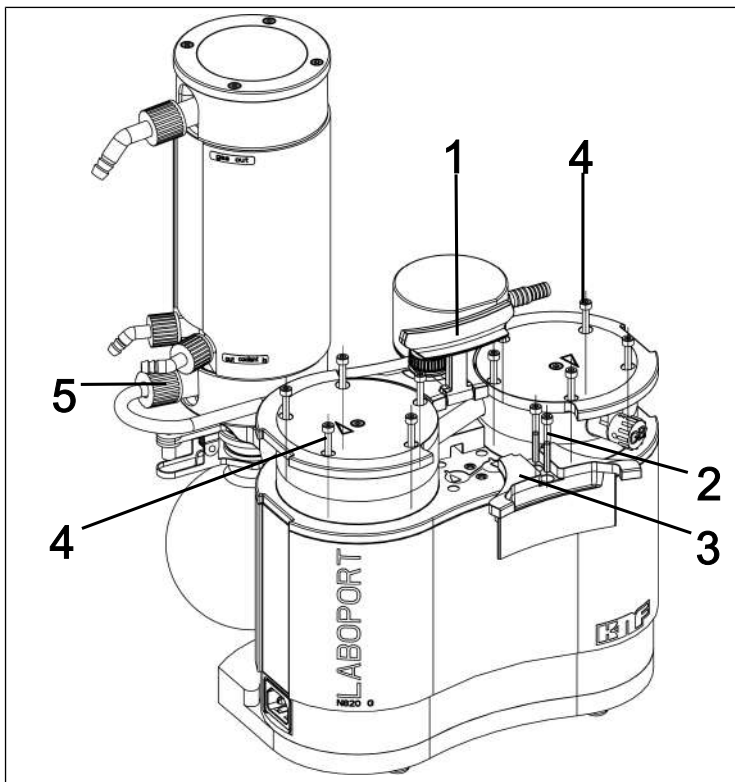

Fig.12: Remove handle cover
3. Remove the union nut of the hose connection (5/ Fig. 12) from the vacuum system components.
4. Put the handle (1/ Fig. 12) into a vertical position.
5. Loosen the two screws (2/ Fig. 12) of the handle cover (3/ Fig. 12).
6. Remove the handle cover (3/ Fig. 12).
7. Loosen the 10 external head screws (4/ Fig. 12) on both pump heads.
8. Remove the 10 external head screws (4/ Fig. 12) from both pump heads.
1. Mark the pressure plate (2), head plate (3) and intermediate plate (6) with a continuous pencil stroke. This prevents the parts from being incorrectly mounted later on.
2. Remove the external screws (4/ Fig. 12) of the pump heads.
9. Insert the 10 external screws (**4**/Fig. 12) in the pump head and tighten them in a crosswise pattern (tightening torque: SH/SR820G: 4 Nm; SR/SH840G: 5 Nm)
- i** If the external screws (**4**/Fig. 12) cannot be inserted into the pump head, loosen the internal head screw (**1**) and check the seating of the head plate (**3**) on the intermediate plate (**6**).
11. Hand-tighten the union nut of the hose connection (**5**/Fig. 12) on the high-performance condenser (**2**/Fig. 3).
1. Mount the handle cover (**3**/Fig. 12).
2. Tighten the screws (**2**/Fig. 12) of the handle cover (**3**/Fig. 12) (tightening torque: 2 Nm).